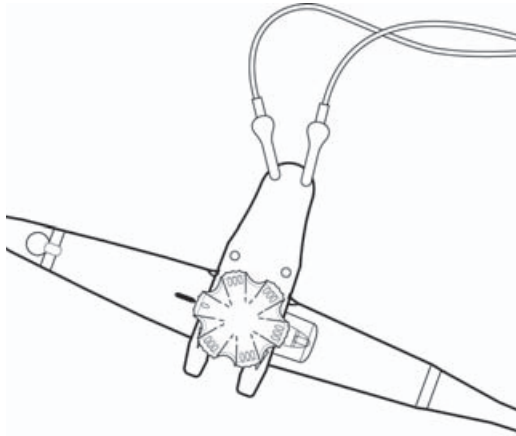

Figure 5-9 Puncture test tool attachment
- b Connect the red leads to the puncture test tool as shown in Figure 5-9 on page 5-11.